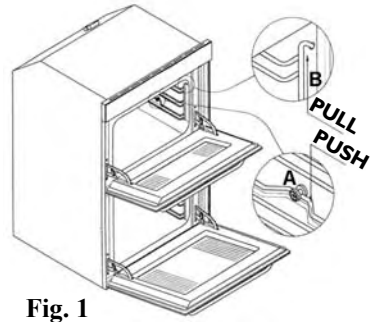

Fig. 1
**Warning:** Disconnect the appliance from the power supply. To remove the side runner frame, push it simultaneously down and towards the centre of the oven (A-fig.1). Then lift the side runner frame upwards to release it from the cavity wall (B-fig.1).